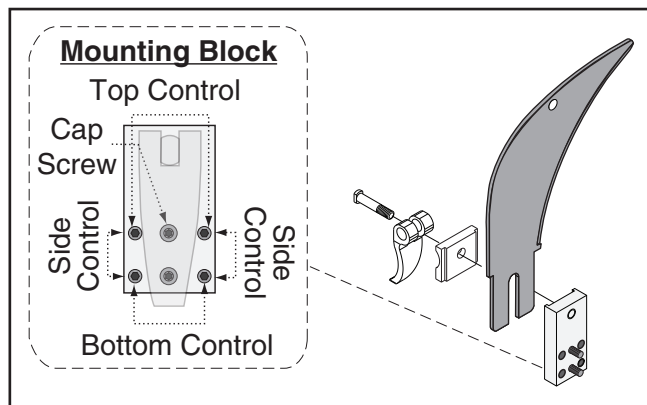

Figure 114. Set screws for adjusting spreader/riving knife position.
5. Spreader/riving knife should be parallel with blade along its length at both positions and should be in "Alignment Zone," as shown in **Figure 114**.
Figure 114 shows the set screws associated with controlling the mounting block position.